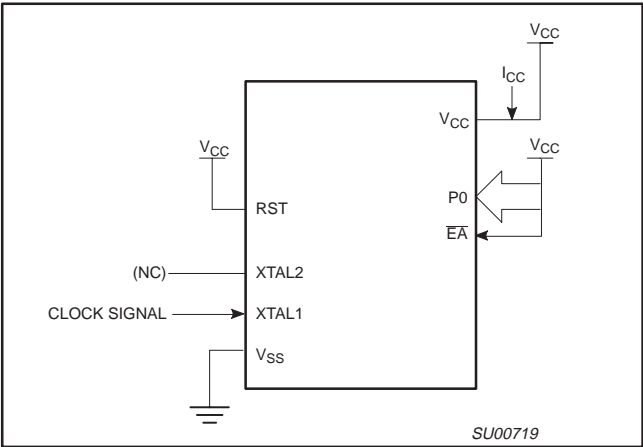

Figure 22.  $I_{CC}$  Test Condition, Active Mode
- See Figures 22 through 25 for  $I_{CC}$  test conditions.